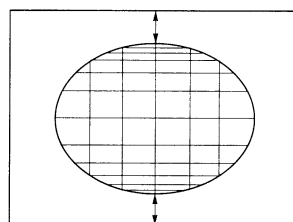

fig. 4
- Adjust the S-correction to obtain a balance between upper, lower and center (fig. 4).